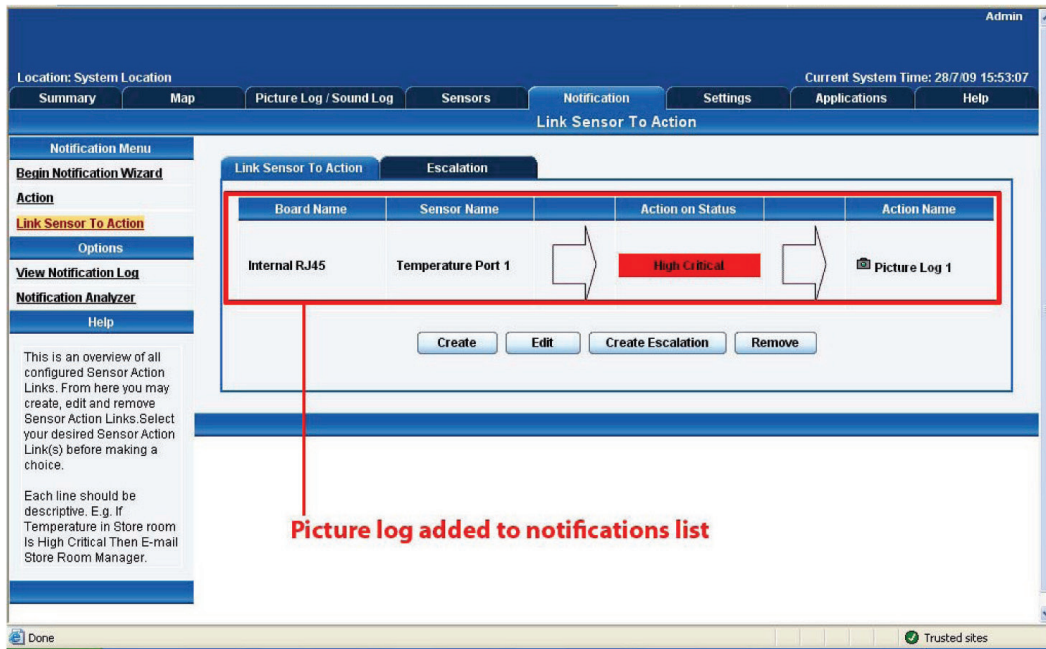

Figure 5-28. Add Picture Log screen.
1. Once this is done, you can add it to the active notifications so your page should now look like the screen in Figure 5-28.